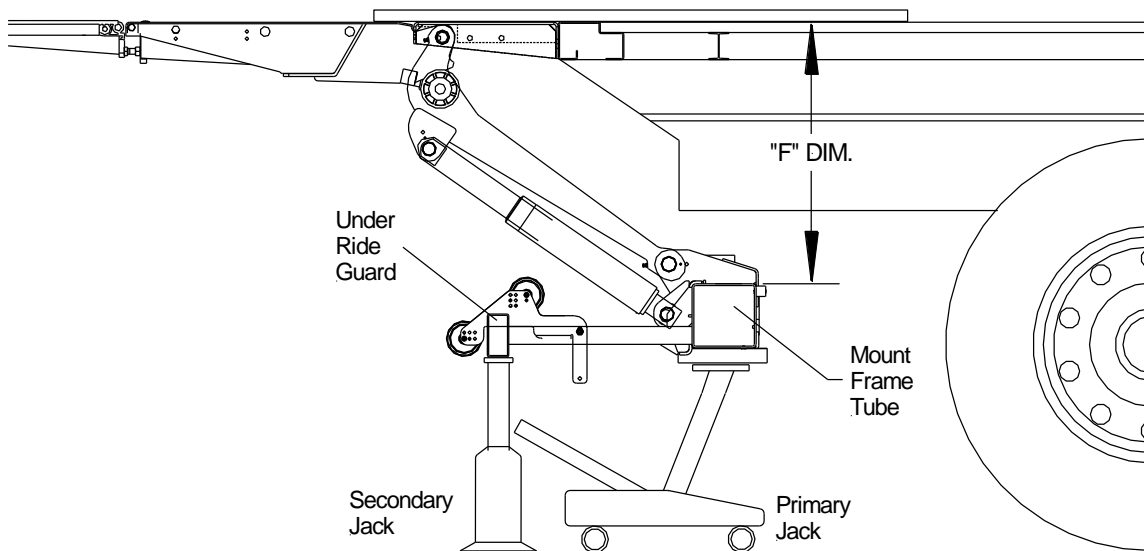

Fig. 13
3. **Set "F" Dimension:** "F" Dimension should be determined from Section 6 of this manual. Use floor jack or equivalent to position the frame assembly up to the required "F" dimension, **Fig. 13**. Use a second jack to level out the under ride guard, if necessary. Check for squareness vertically and horizontally. 12V power supply may be required to release pressure on lift cylinder valves, if power is required continue to the Electrical Installation in Section 9.